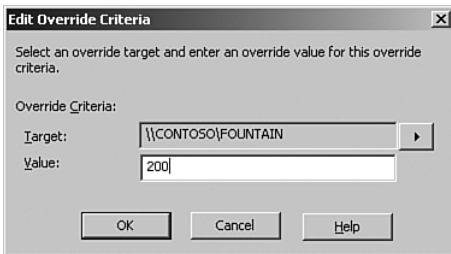

FIGURE 18.6 Overriding the threshold for a particular server.
4. Specify a Value as shown in Figure 18.6 and click OK.